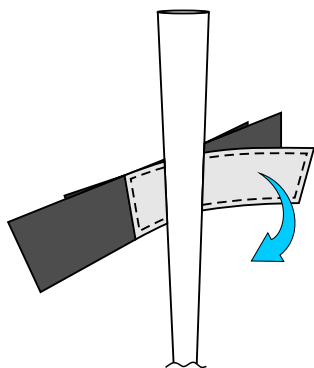

Fig 2.2A
1. Position the white fabric of the strap against the rail. Wrap the strap around the rail (see Fig 2.2A).